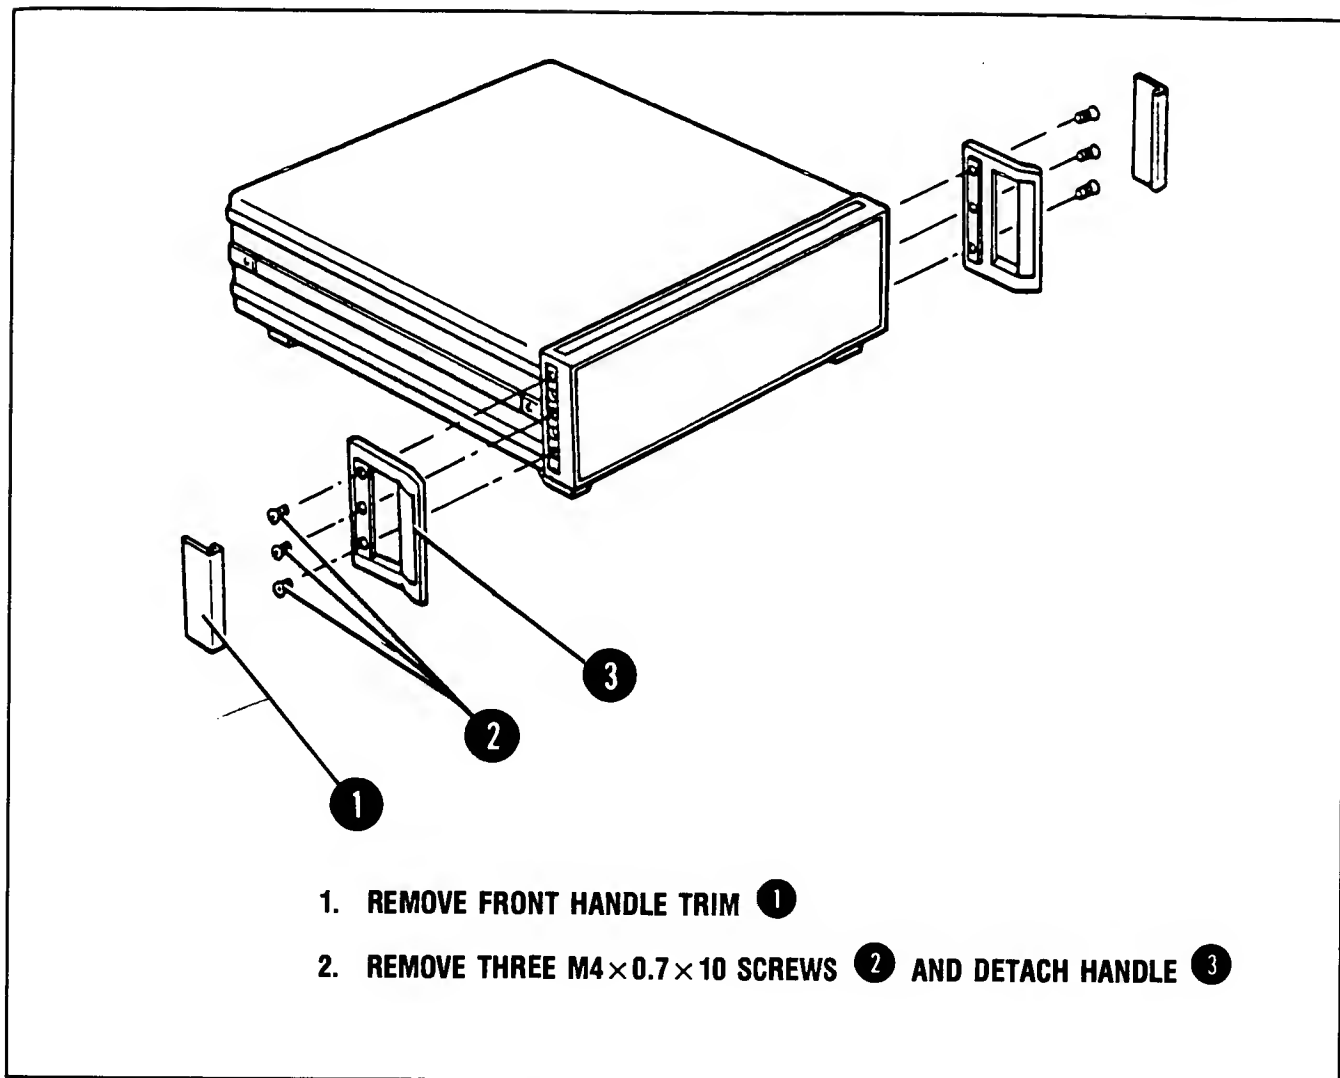

Figure 2-4. Removing Front Handles
2-27. To install some instrument options, the front handles need to be removed. See Figure 2-4 for instructions. When installing an option or replacing the handles, be sure that the correct size screw (as indicated in the illustrations) is used to prevent damage to the instrument.
2. Remove the front handles on both instrument sections and replace with the 10½-inch handles and/or the 10½-inch rack mount brackets supplied with the kit. (Refer to Figures 2-4, 2-5 and 2-6.)